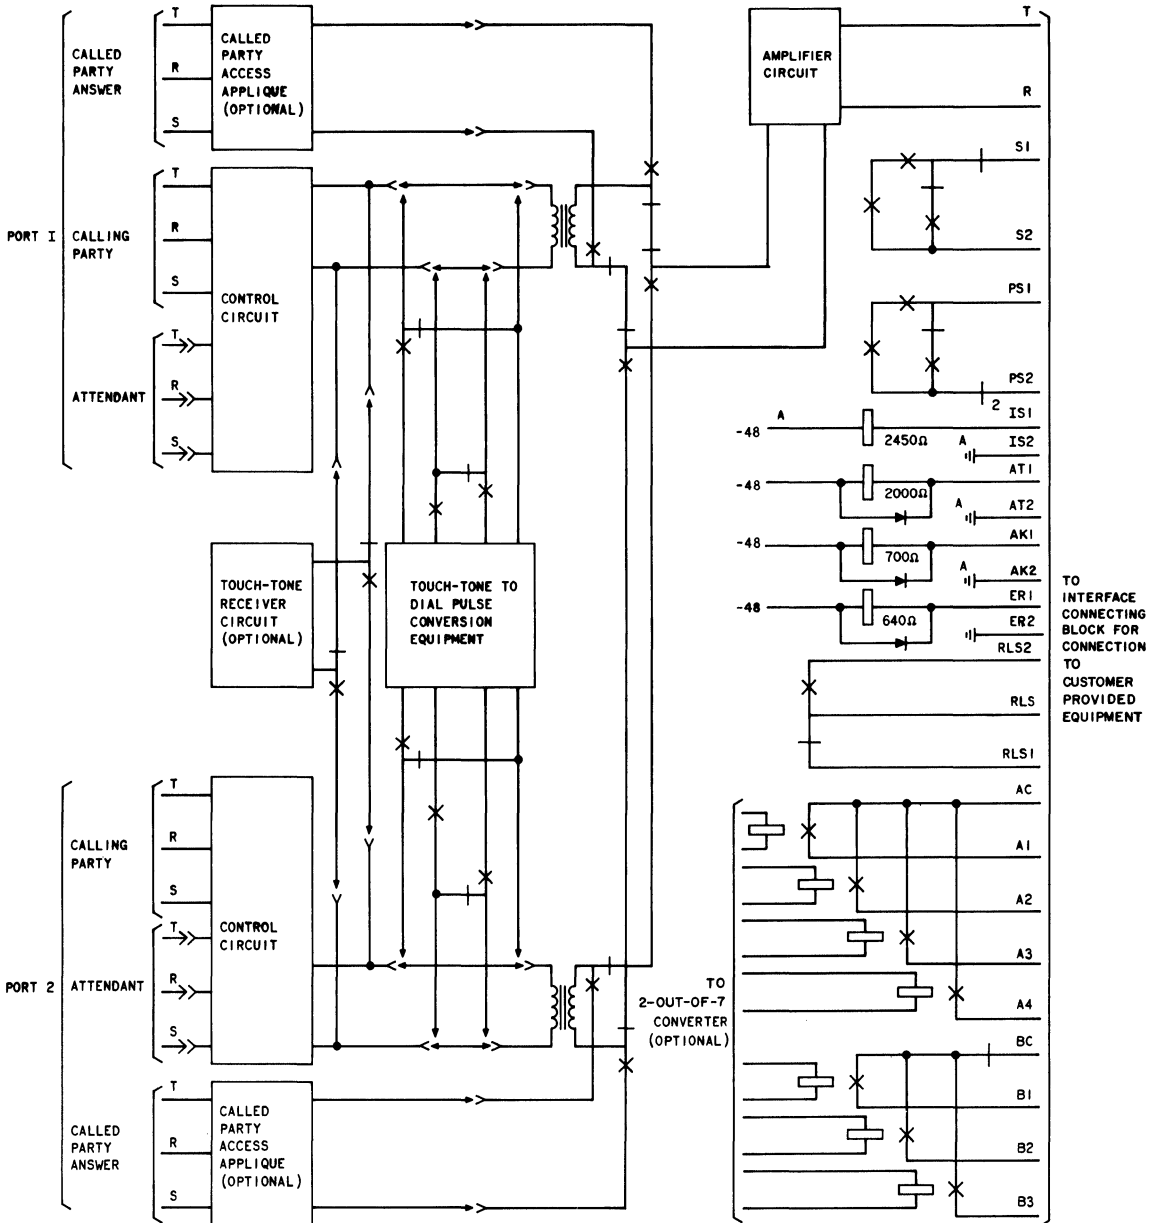

Fig. 3—Simplified Schematic—Voice Connecting Arrangement DCW
**4.03** Fig. 3 shows a simplified schematic of Voice Connecting Arrangement DCW.